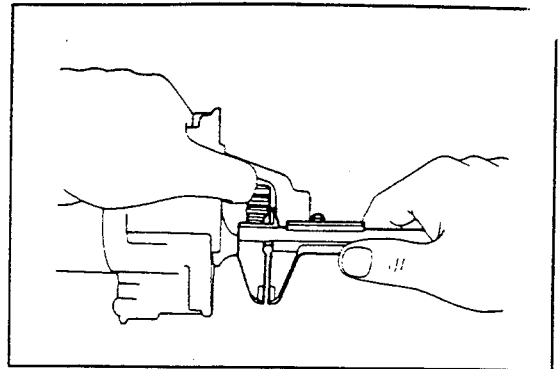

Fig. 10-40
- (2) Connect the battery and ammeter to the starter as shown in Fig. 10-40.
- (3) Ensure that the starter rotates smoothly and steadily with the pinion moving out.
- (4) Ensure that the ammeter registers the specified current.